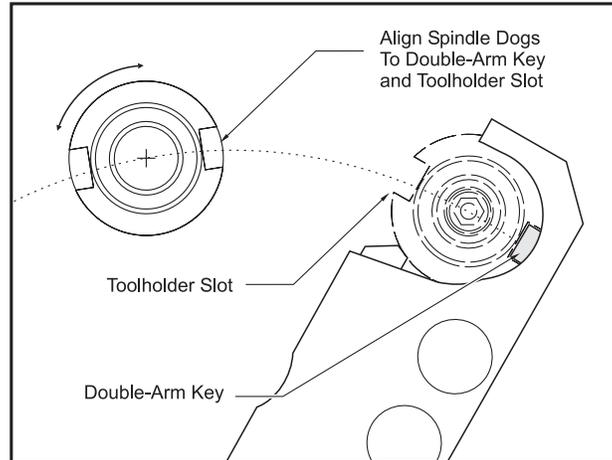

Figure 3.12-13 Spindle Orientation Setting
2. Place a tool into the spindle. Enter TCR mode. Align the spindle dogs to the double-arm key (refer to Figure 3.12-13). Press the ATC FORWARD button until the double arm engages the tool (manually rotate the spindle dogs if necessary).
3. Enter DEBUG mode. Record the encoder value under "spindle orientation position". Refer to Figure 3.12-13.